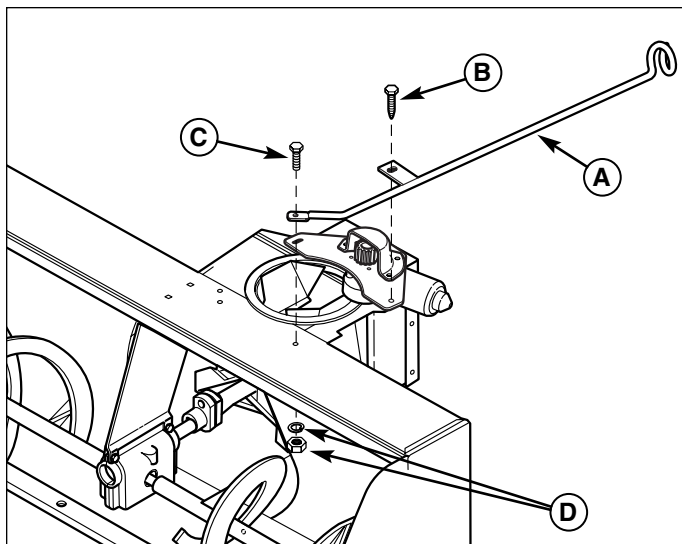

Figure 13. Secure Cable Guide
1. Using the 5/16-18 x 1 capscrew (C, Figure 13), lockwasher, and nut (D) provided and the 5/16-18 x 5/8 taptite screw (B) securing the rotator motor mount bracket, secure the cable guide (A) to the snowthrower assembly as shown.